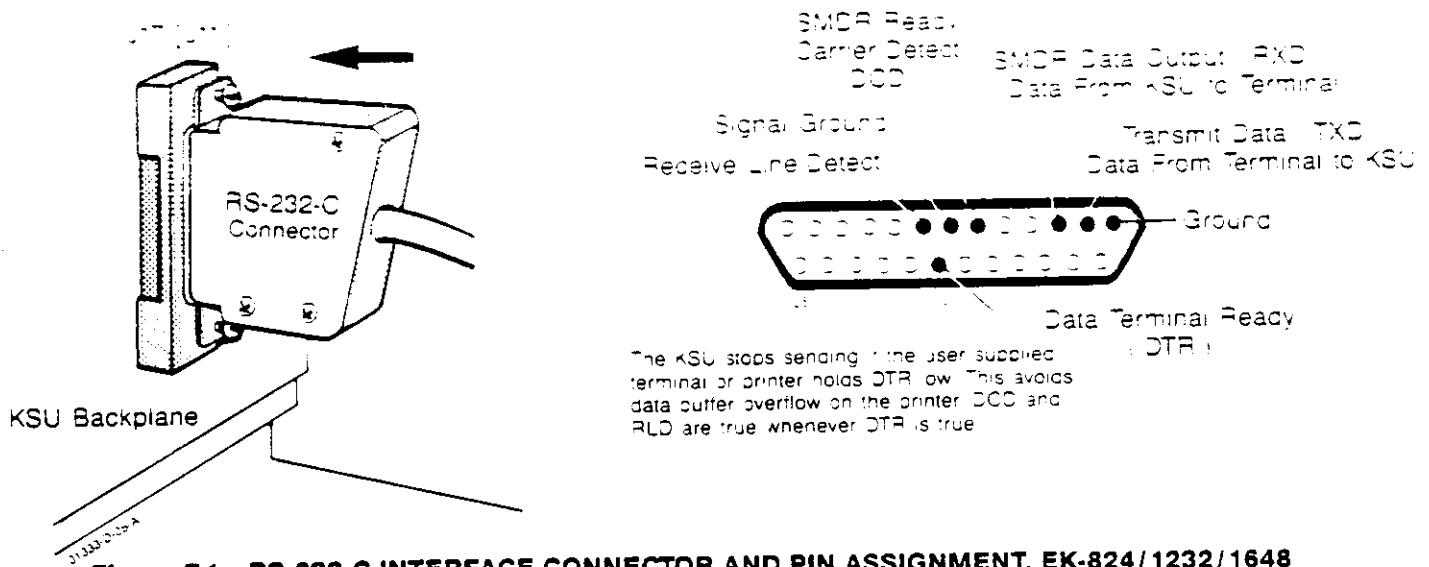

Figure 7-1 RS-232-C INTERFACE CONNECTOR AND PIN ASSIGNMENT, EK-824/1232/1648
- (1) Programming information must be recorded on the PRFs before programming the system.
- (2) Plug any ASCII terminal or printer having an RS-232-C interface into the J17 [J11] connector (Figure 7-1) on the KSU backplane.